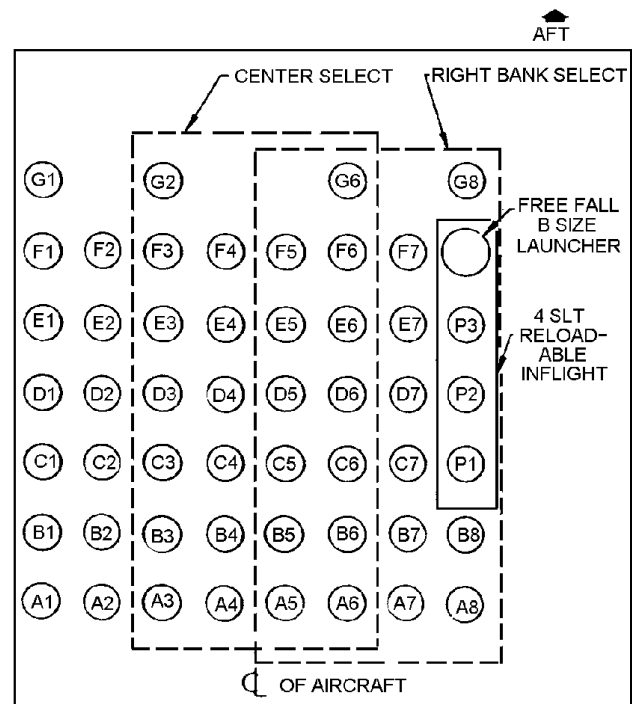

Figure 15-22.—P-3 sonobuoy launch tube arrangement.
**WEAPON SYSTEM.**—The weapon system consists of the equipment and accessories necessary for loading, carrying, and releasing of kill and search stores. There are two subsystems, the armament (kill store) subsystem and the ordnance (search store) subsystem. The armament system refers to carriage and delivery of weapons or stores from the wing and bomb bay stations. The ordnance system refers to equipment used for carriage and delivery of search stores. A maximum of 8 bomb bay stations and 10 wing stations are available for carriage of weapons. There are 48 unpressurized sonobuoy launch tubes (SLT), 3 pressurized SLT, and 1 free-fall chute used with the search store system (fig. 15-22).